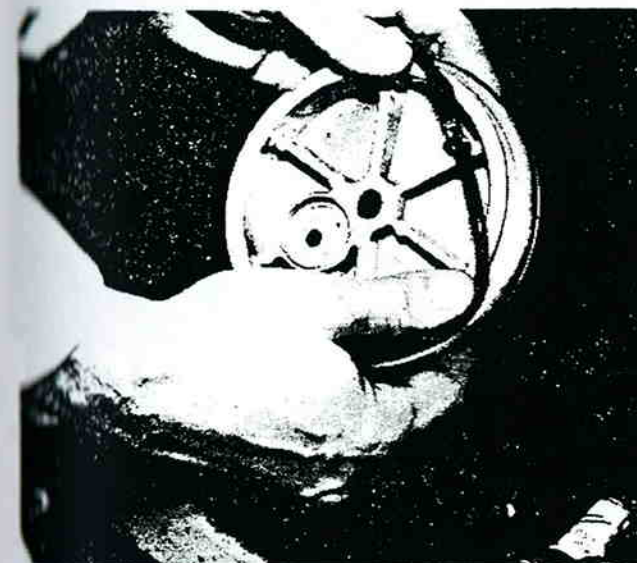

Figure 4-46. Installing O-Rings On End Cover.
5. Thoroughly lubricate the two new O-rings and install them in their respective grooves in the purge plate (figure 4-46).